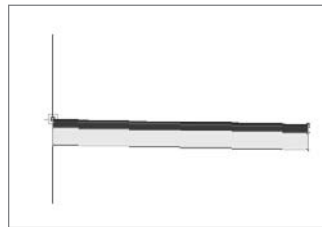

Figure A.68
8. Note that the command line states `Select marker point within assembly or [RETURN for Detached]`. Click the assembly on the right side of the center point marker to place a 15'-wide lane on the right side of the assembly, as shown in Figure A.68.